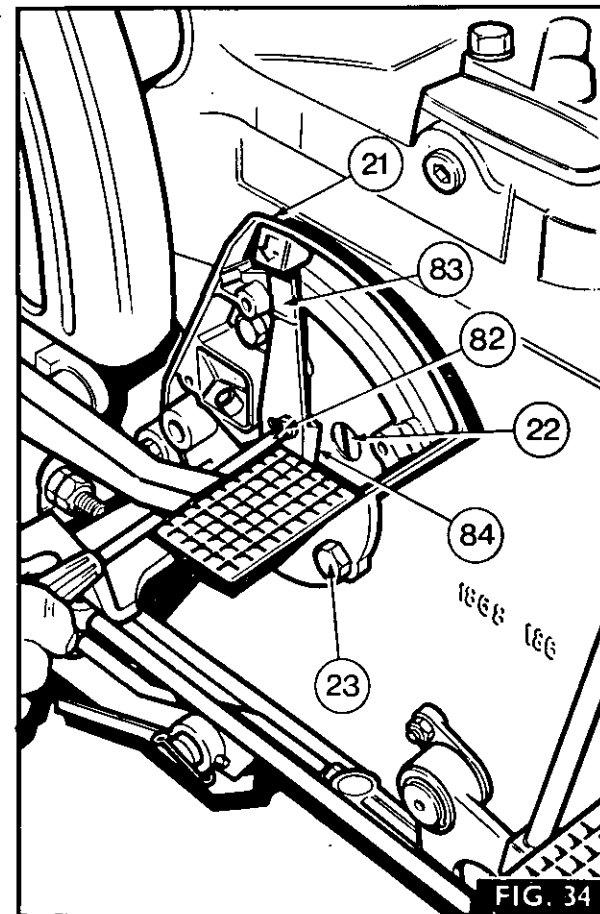

FIG. 34
1. Fig. 34. Refit the Response Control side cover (21), with a new gasket and secure it with the five bolts (23) and the screw (22).
2. Release the locking screw (82) and place the Response Control lever (83), 6 mm ( $\frac{1}{4}$  in) from the SLOW position.
3. Rotate the inner adjusting lever (84), until the cam just contacts the Response Control lever on the pump, and tighten the screw (82).